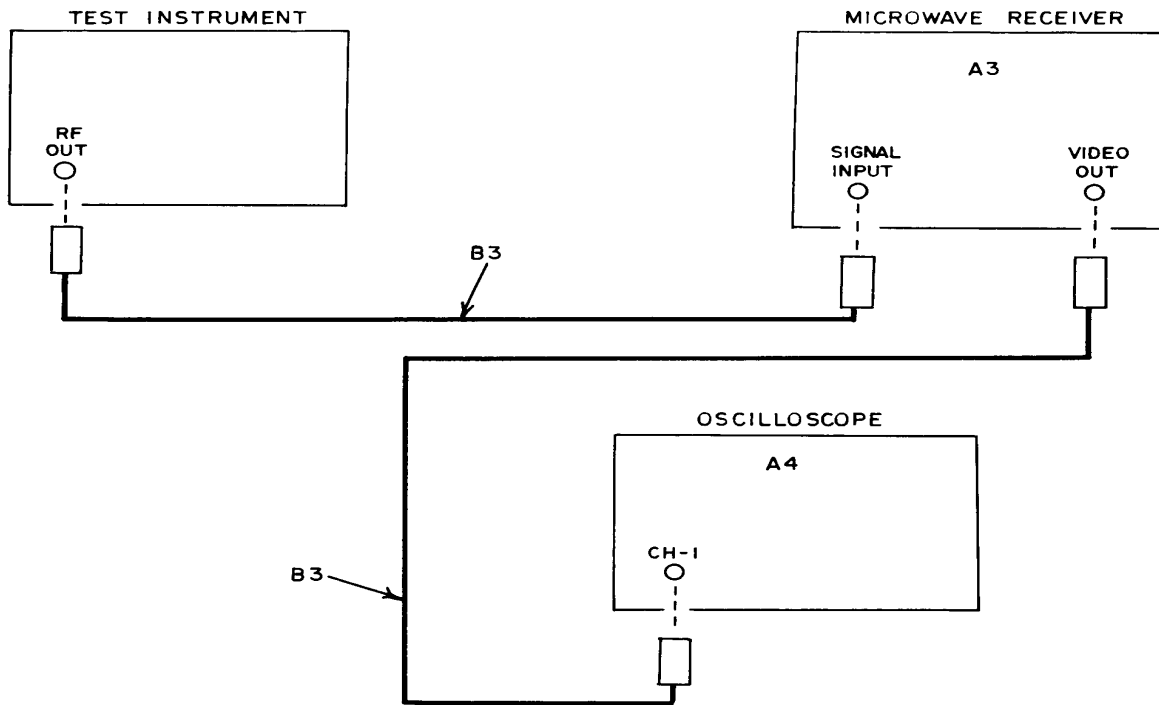

Figure 9. Attenuation - equipment setup.
- (1) Connect equipment as shown in figure 9.
- (2) Position TI controls as listed in (a) through (f) below:
- (3) Adjust microwave receiver (A3) and TI controls for a null on microwave receiver NULL meter.
- (4) Position RF ATTENUATOR DB switch to 10.
- (5) Readjust microwave receiver for a null.